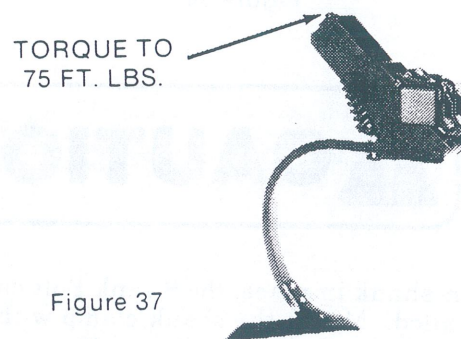

Figure 37
- (g) Torque spring rod bolt to 75 ft. lbs. See Figure 37.